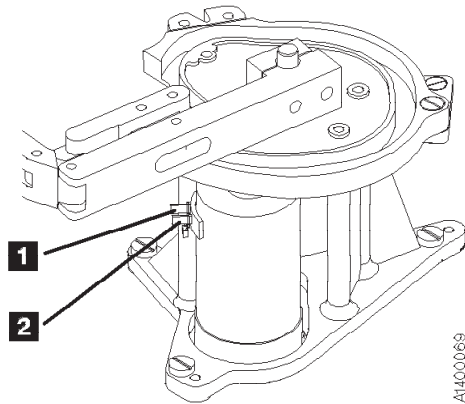

Figure 10-58. Pantocam Motor Connectors
4. See Figure 10-58. Disconnect the two pantocam motor leads:
23. See Figure 10-58 on page 10-85. Reconnect the two pantocam motor leads, if not already done as part of the ferrite ring installation.